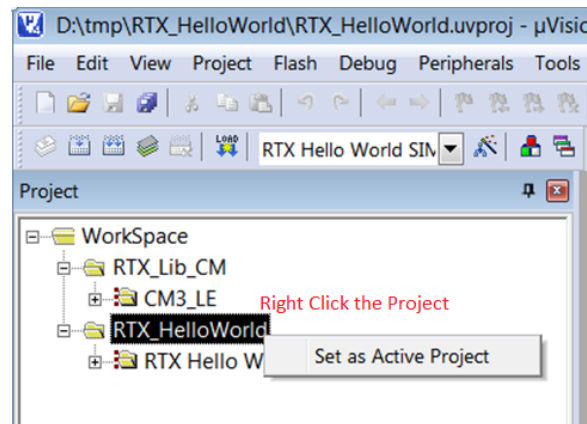

Figure 1.25: Keil IDE: Set an Active Project
1. Activate the RTX_HelloWorld project by highlighting the project name and right click. Then click the Set as Active Project (see Figure 1.25).